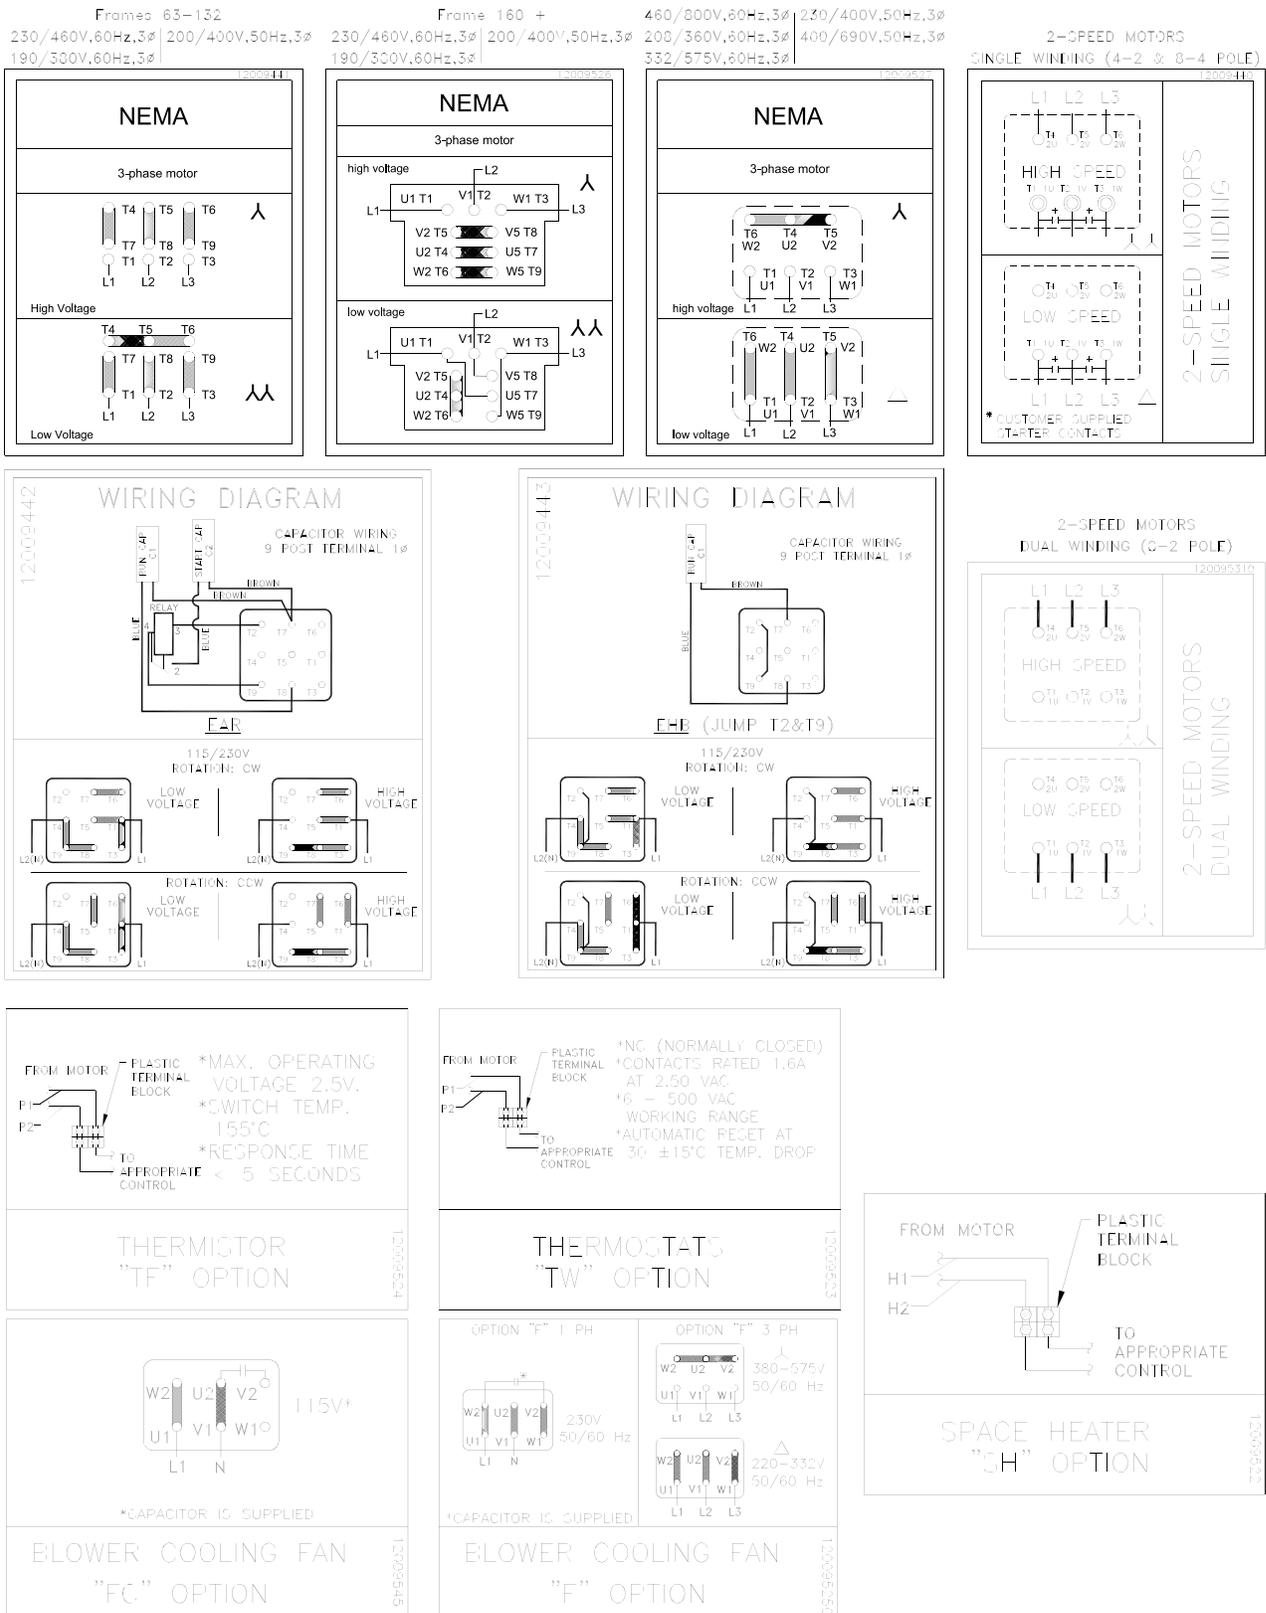

Figure 2. Motor Connection and Wiring Diagrams
- D. Reconnect the wiring to the motor. Refer to Figure 2 for the motor and options connection diagrams.
- I. Reconnect the wiring to the motor. Refer to Figure 2 for the motor and options connection diagrams.
- J. Reconnect the wiring to the motor. Refer to Figure 2 for the motor and options connection diagrams.